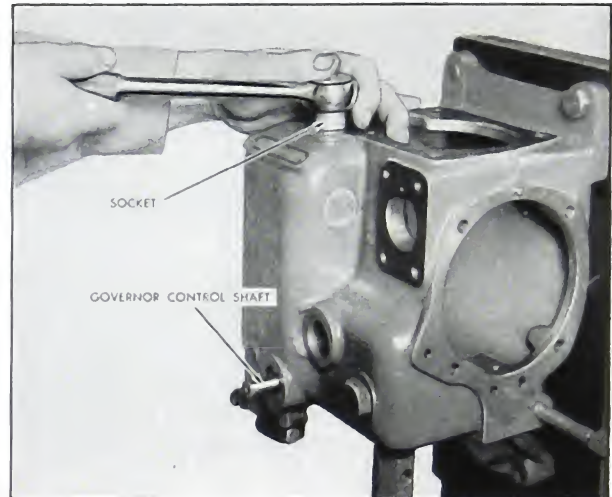

Fig. 5-13. Loosening capscrew in plunger lever
3. Insert a socket wrench through the hole in the top of the housing to loosen the capscrew which holds the plunger lever shaft and plunger lever pin in place. Fig. 5-13.